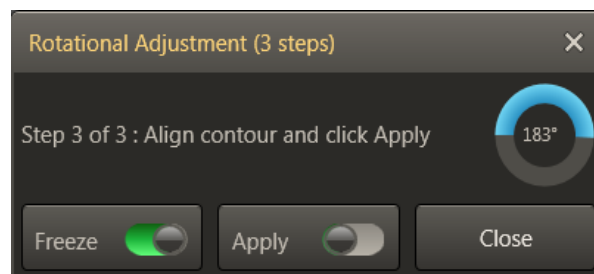

Figure 53: Rotational Adjustment, Step 3
5. Click Apply, highlighted in Figure 53.